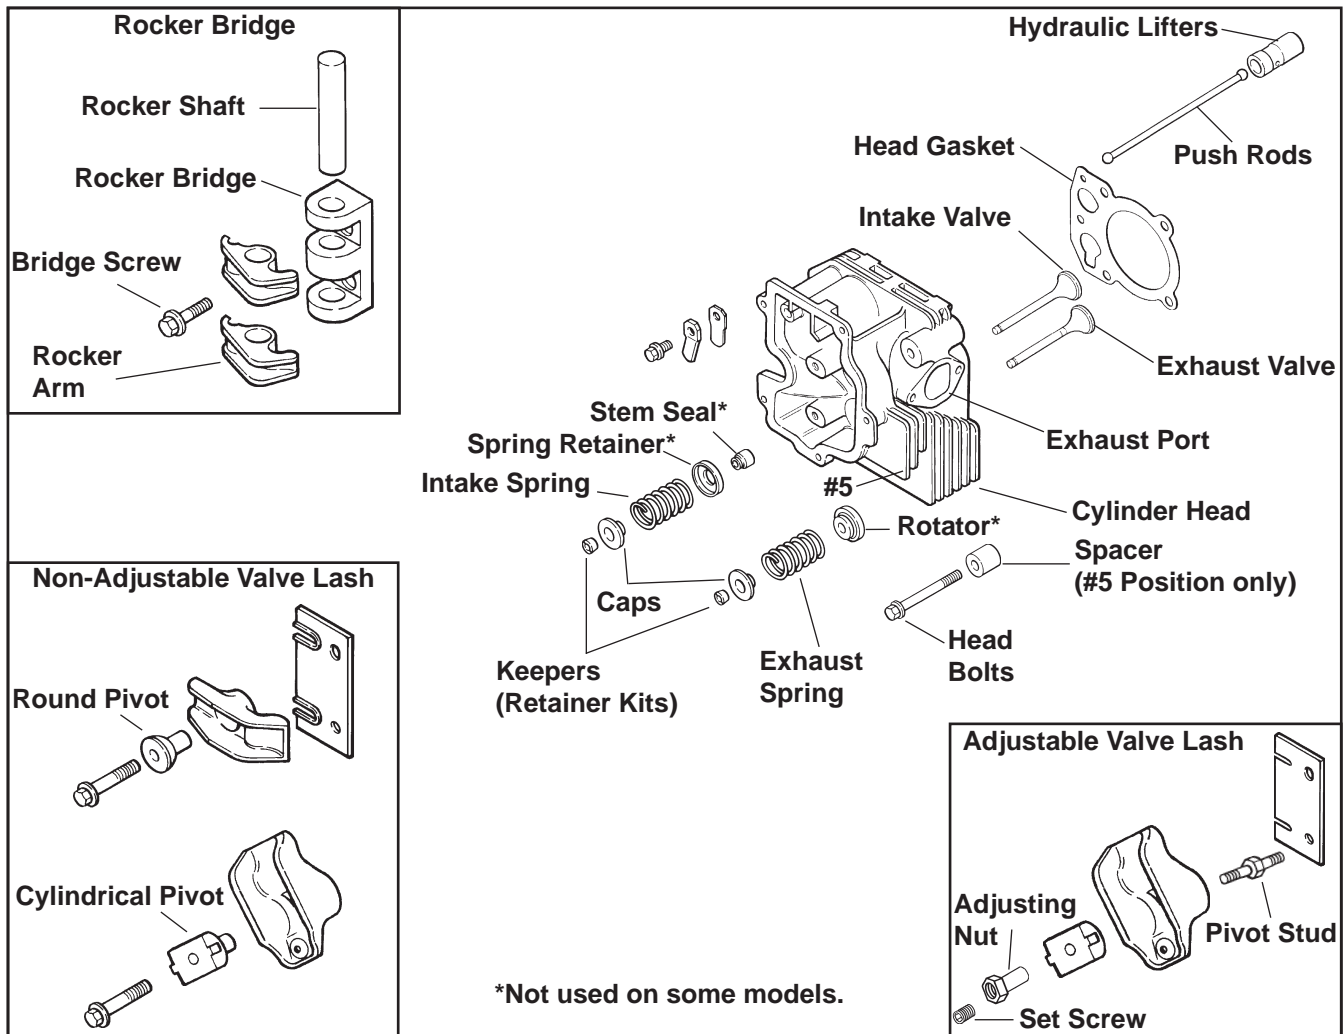

Figure 11-37. Cylinder Head Valve Train Differences.
Refer to Figure 11-37 for cylinder head differences. Assemble the components accordingly, based on head configuration involved.
Heads with Separate Pivots/Rocker Arms—Figure 11-37
4. **Rocker Bridge Heads—Figure 11-37**